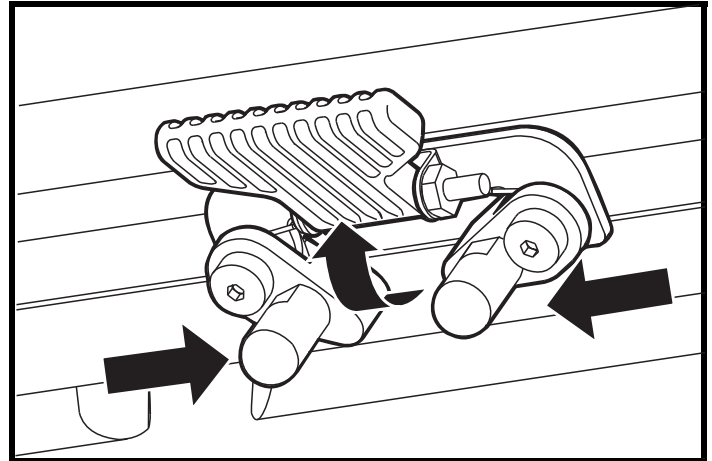

Figure 20. Seat Latch Safety
3. Flip up the seat latch safety. **See figure 20.**